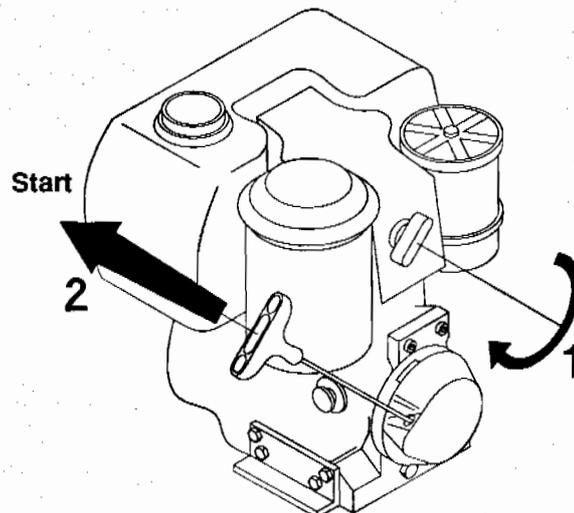

Fig 4
- turn the decompression lever clockwise as far as it will go = automatic (Fig. 4, item 1). If the decompression lever does not automatically stop in the "automatic position", 1. is to be repeated.
- quickly pull the starting cable with force (do not jerk) out far - the engine starts (Fig. 4, item 2). Support light-weight or tilting equipment with your hand or foot.